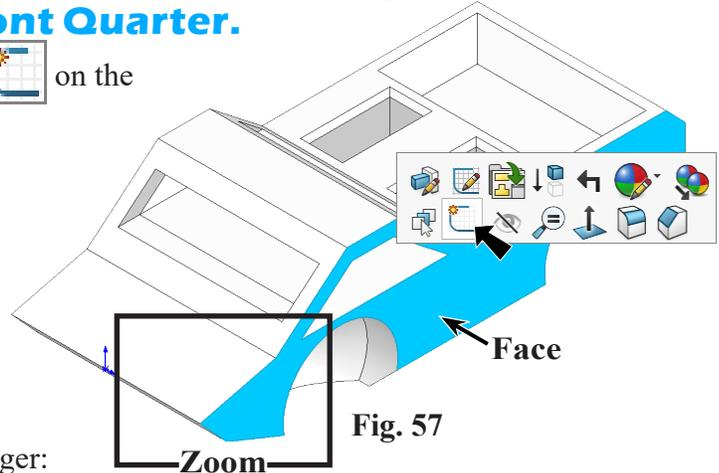

Fig. 57
Step 1. Click the **side face** and click **Sketch** on the context toolbar, **Fig. 57**.
Step 2. Zoom in on **left front quarter panel, Fig. 57**.